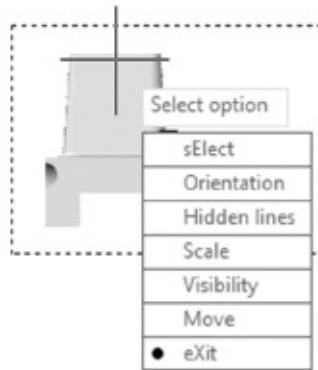

FIGURE 22.37 After you place the parent base view, this menu displays the options that you can set.
4. When the view is placed, you have several options (see Figure 22.37). You can control the orientation and set the visibility of hidden lines and the scale of the view. The visibility setting provides further control of how your model's edges will be displayed. When all is set, click Exit. Setting up your view can be tricky because the changes that you make won't be applied until you exit the command. Once the views are set, you can alter them, or you can erase them and start over.